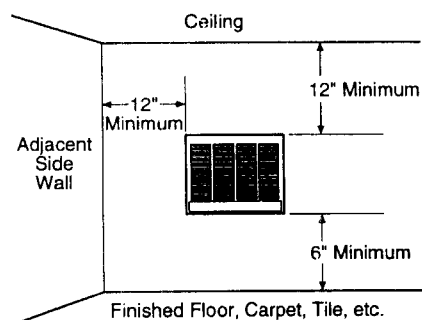

Figure 1 - Mounting Clearances as Viewed from Front of Furnace
**▲ WARNING:** Maintain the minimum clearances shown in Figure 1. If you can, provide greater clearances from floor, ceiling, and joining wall.
Provide the following minimum clearances from furnace front cover to combustibles (as viewed from the front of furnace, see Figure 1):